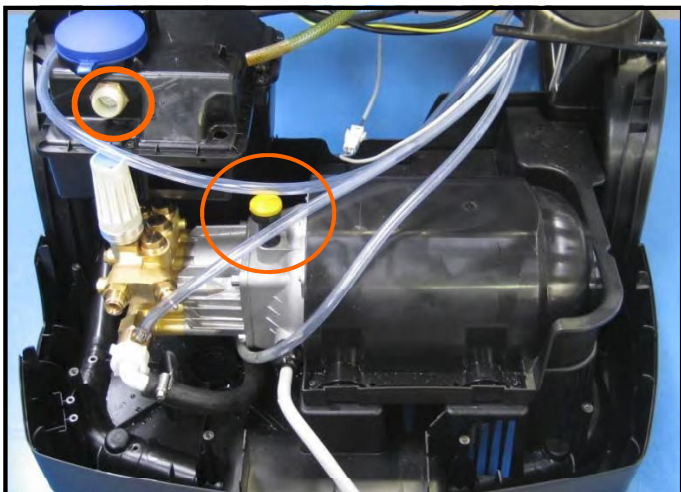

Fig.F.3: Oil plug extension.
- Clean the filter in water break tank. Fig.F.3